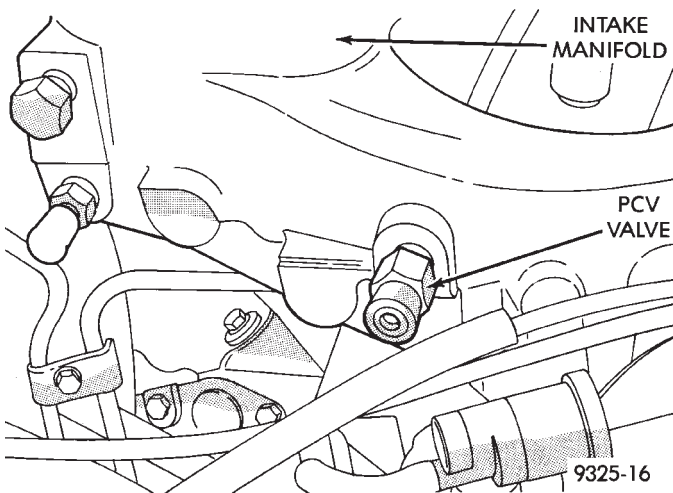
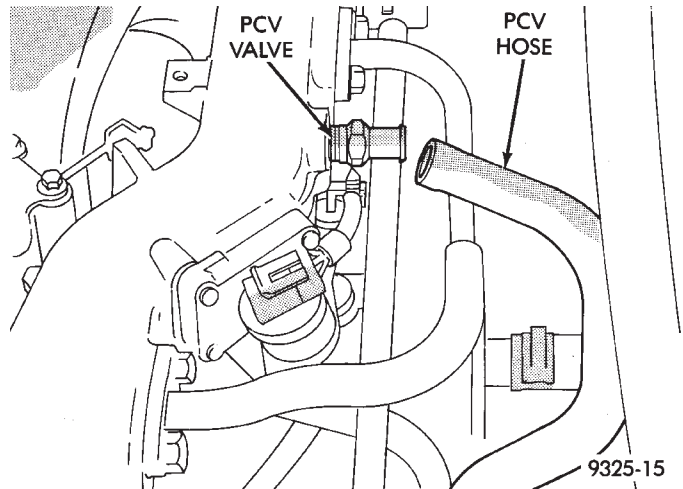

Fig. 5 PCV Valve—3.3L Engine
Fig. 6 PCV Valve—3.5L Engine
(1) With engine idling, remove the hose from the PCV valve. If the valve is not plugged, a hissing noise will be heard as air passes through the valve (Fig. 5) or (Fig. 6). A strong vacuum should also be felt when a finger is placed over the valve inlet.